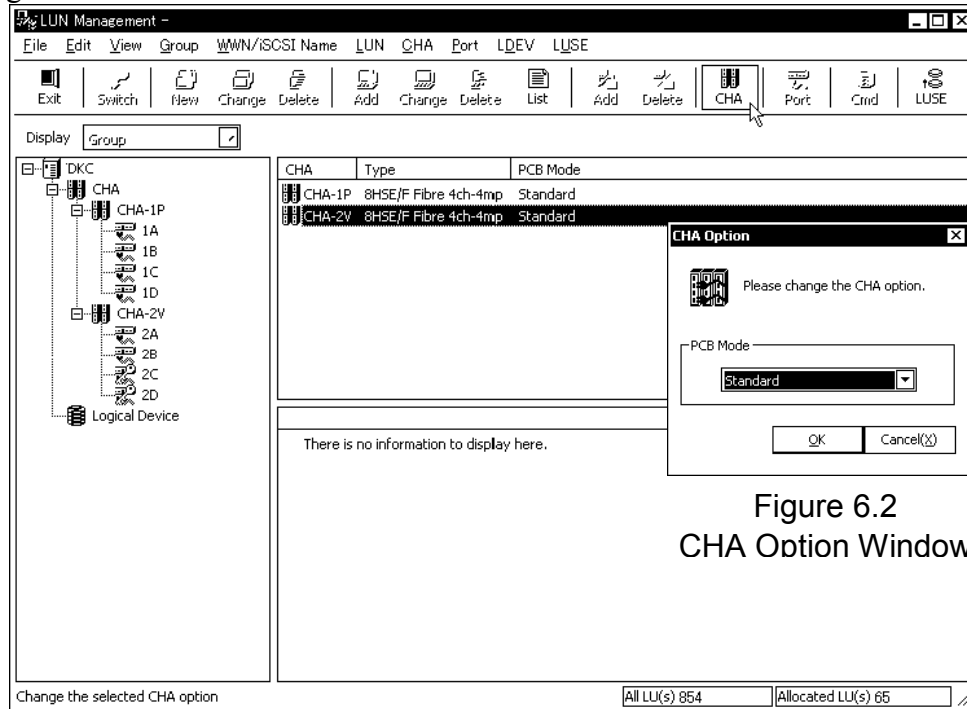

Figure 6.2
- ③ Since the CHA Option window (Figure 6.2) is displayed, select (CL) a "PCB Mode" and select (CL) the [OK] button.
- ④ An operational mode of a PCB of the CHA that has been set in the upper right list is changed.